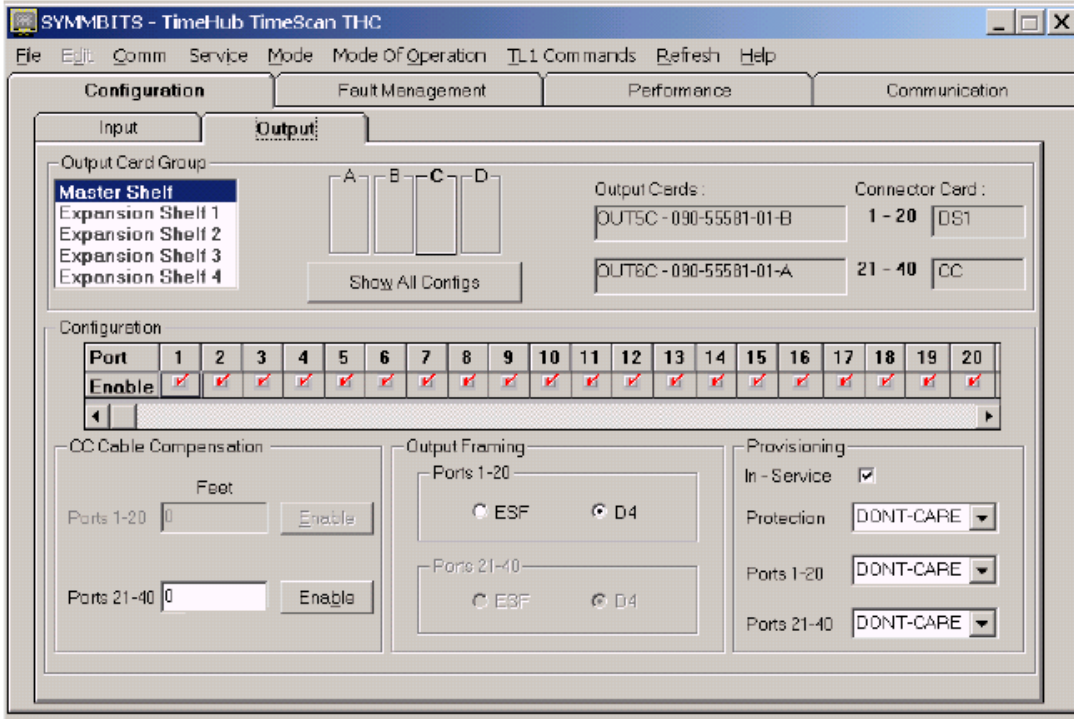

Figure 5-1. The Configuration Output Screen
1. Select the **Configuration Output** tab (Figure 5-1) and identify the output card group that is to have port alarm clear attempted. In the example shown, the **C** output group on the Master shelf is selected.